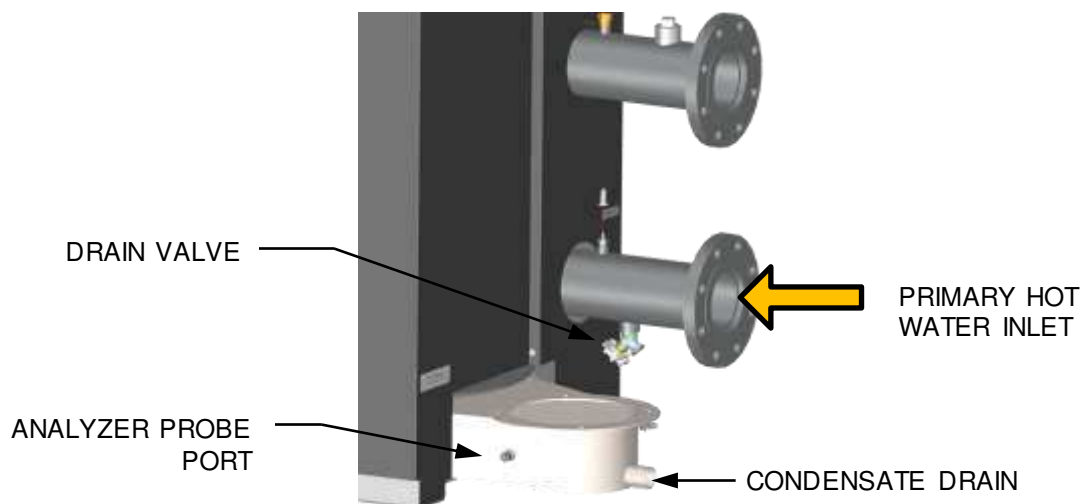

Figure 4-2: Analyzer Probe Port Location (BMK1500 shown)
Benchmark units contain a 1/4" NPT port on the side of the exhaust manifold, as shown in Figure 4-2. Prepare the port for the combustion analyzer probe as follows:
1. Refer to Figure 4-2 and remove the 1/4" NPT plug from the exhaust manifold.